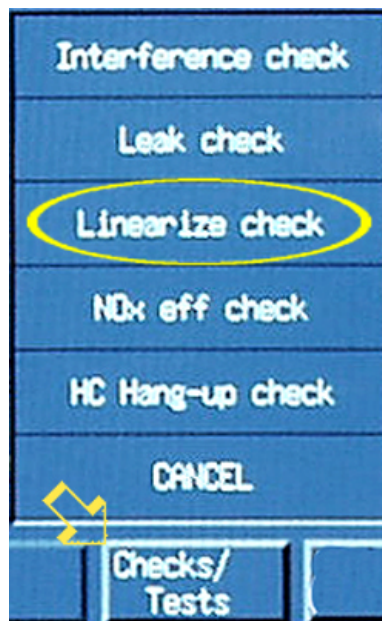

Figure 6
- 109 In the screen command area, click on “Checks/tests.” See the arrow in Figure 6. Click on “Linearize check.” See the circle in Figure 6.